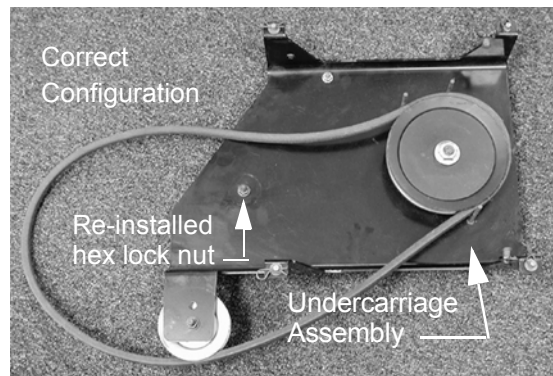

FIGURE 3
2. If Idler Assembly is present, remove the Idler Assembly, tension spring and shoulder spacer. The Idler Assembly must be removed in order to provide clearance to properly install the Undercarriage Assembly to the tractor. Retain all removed Idler Assembly components for future use. See FIGURE 3.
3. Ensure that the hex lock nut removed to uninstall the Idler Assembly and shoulder spacer, is reinstalled and tightened securely. See FIGURE 3.